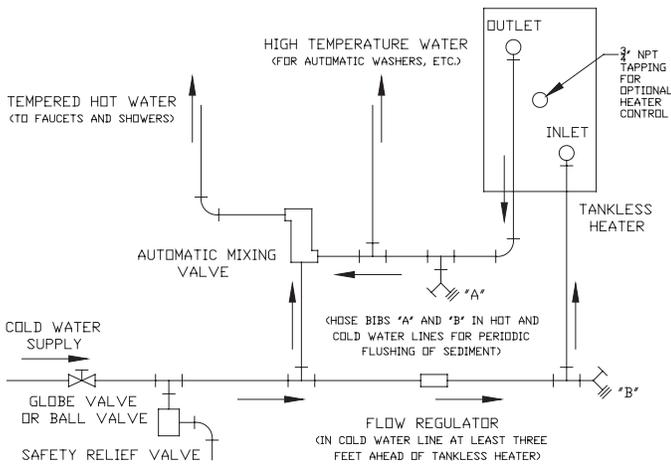

Figure 38: Schematic Tankless Heater Piping
M. CONNECT TANKLESS HEATER PIPING as shown in Figure 38. See Table IV for Tankless Heater Ratings.
Refer to Figure 38 for piping recommendations. Adjust and maintain the mixing valve in accordance with manufacturer's instructions.
All water contains some sediment which settles on the inside of the coil. Consequently, the heater should be periodically backwashed. This is accomplished by installing hose bibs as illustrated in Figure 38 and allowing water at city pressure to run into hose bib A, through the heater, and out hose bib B until the discharge is clear. The tees in which the hose bibs are located should be the same size as heater connections to minimize pressure drop.